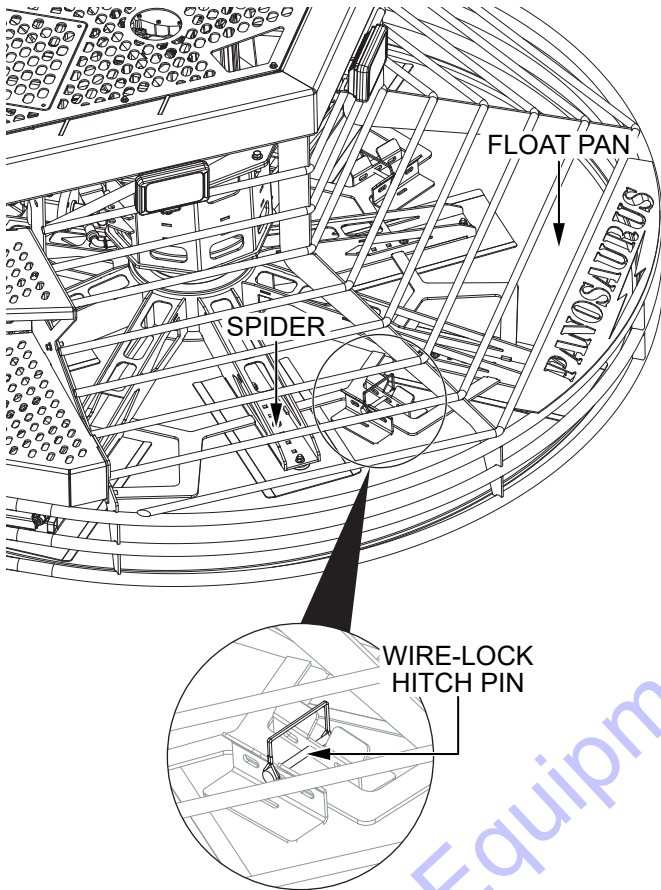

Figure 81. Float Pan Removal
2. Remove the four wire-lock hitch pins (Figure 81) securing the float pan to the spider.